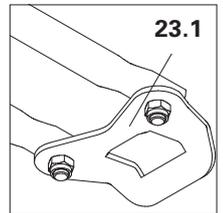

Fig. A7.13
1. Push gusset plate (23.1) onto the top chord of the middle Truss Girder STT via the Diagonal Brace connection. (Fig. A7.13 + A7.15)